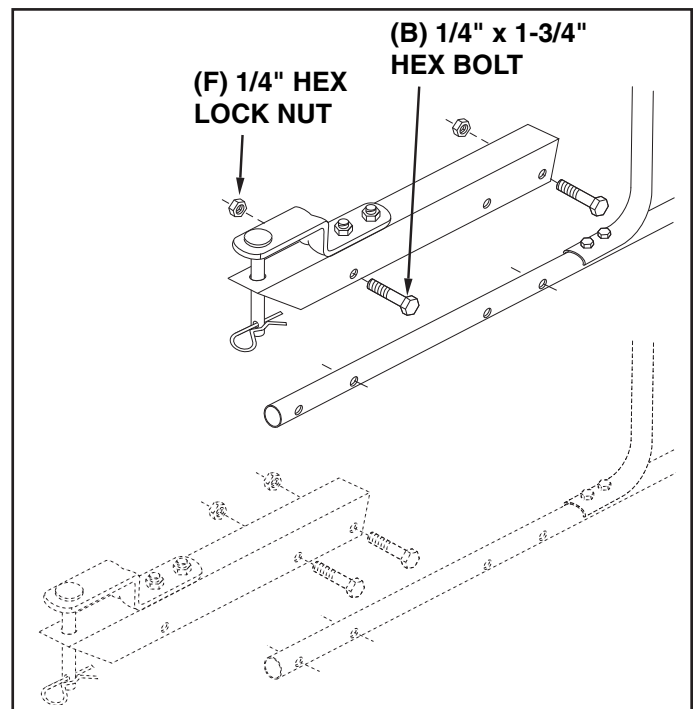

FIGURE 14
- For most vehicles, assemble the hitch extension bracket to the holes in the hitch tube shown at the **top** of figure 14. Use two 1/4" x 1-3/4" hex bolts (B) and 1/4" hex lock nuts (F) tightened only finger tight. Attach the spreader hitch to your vehicle hitch. Check for interference with the spreader directly behind and out to both sides of the vehicle. Lift the spreader at each position to make sure there is no interference with the spreader's flow control. If there is interference with the rear of the vehicle, assemble the hitch extension bracket as shown at the **bottom** of figure